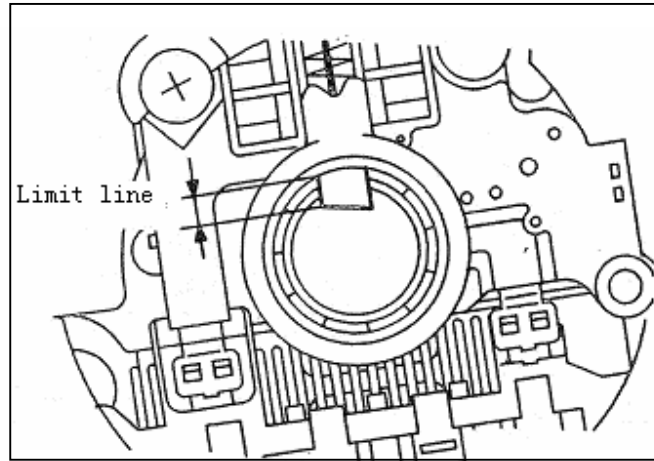

Fig. 9-47
(4) Brush replacement
- ① Replace brush by the following procedures if it has been worn to limit line as shown in Fig. 9-47.